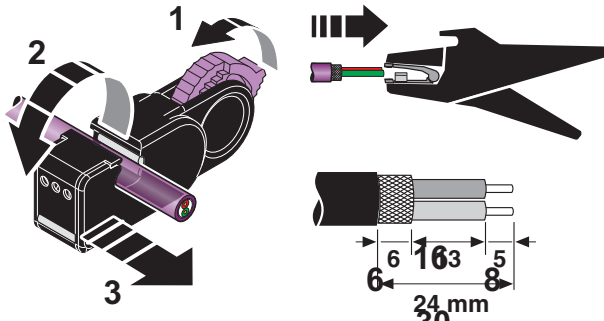

Figure 4 Stripping
To ensure reliable operation, observe the recommended stripping lengths according to Figure 4.
- Strip the cable according to Figure 4.